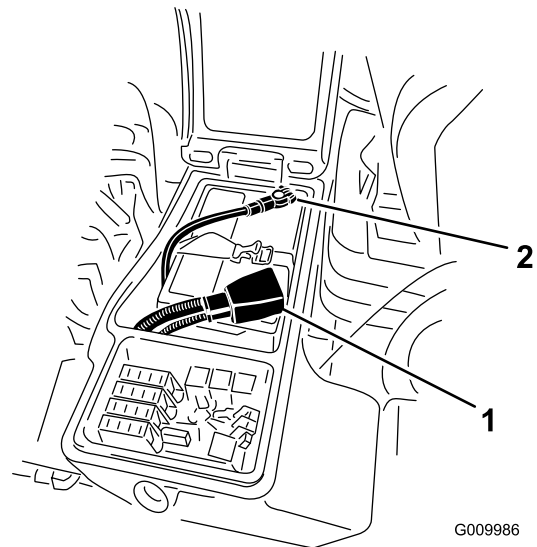

Figure 92
3. Remove the negative cable (black) from the negative (-) terminal and the positive cable (red) from the positive (+) terminal of the battery (Figure 92).
- Install the positive cable (red) to the positive (+) terminal and the negative cable (black) to the negative (-) terminal of the battery (Figure 92).